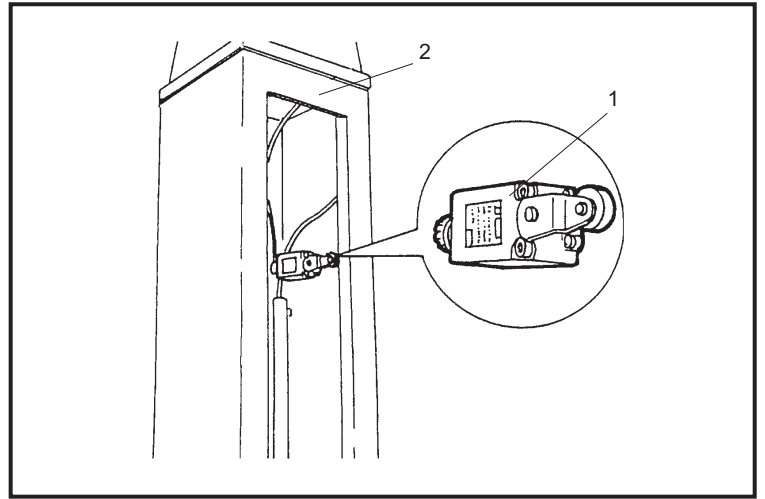

Fig.22 Overstroke safety devices
- If the movable part of the lift should go in overstroke, there is an electric limit switch (1) in the control post and a steel locking plate (2) on the top of all four posts (fig.22).